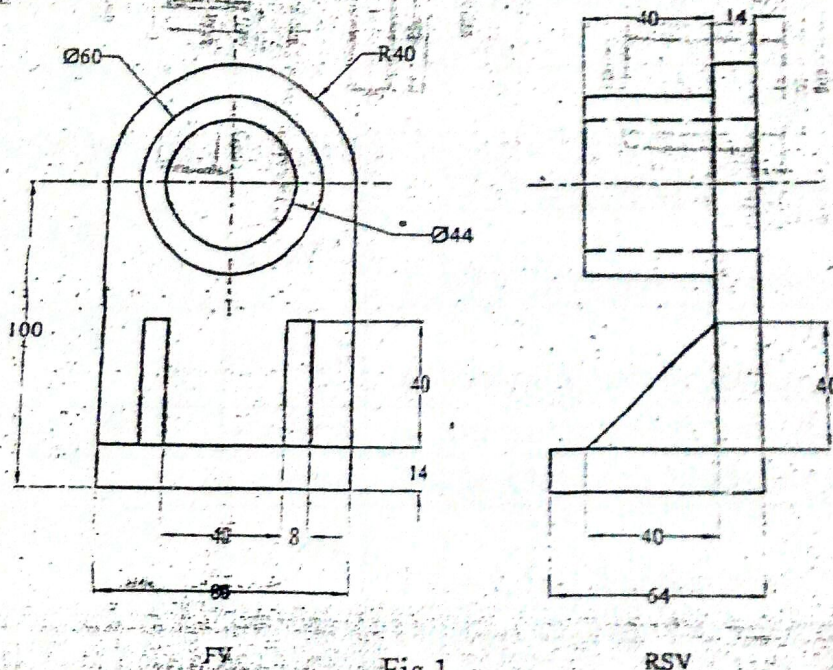

Fig.1
1. Draw an isometric view of an object shown in figure below (figure 1) and indicate dimensions. [10]